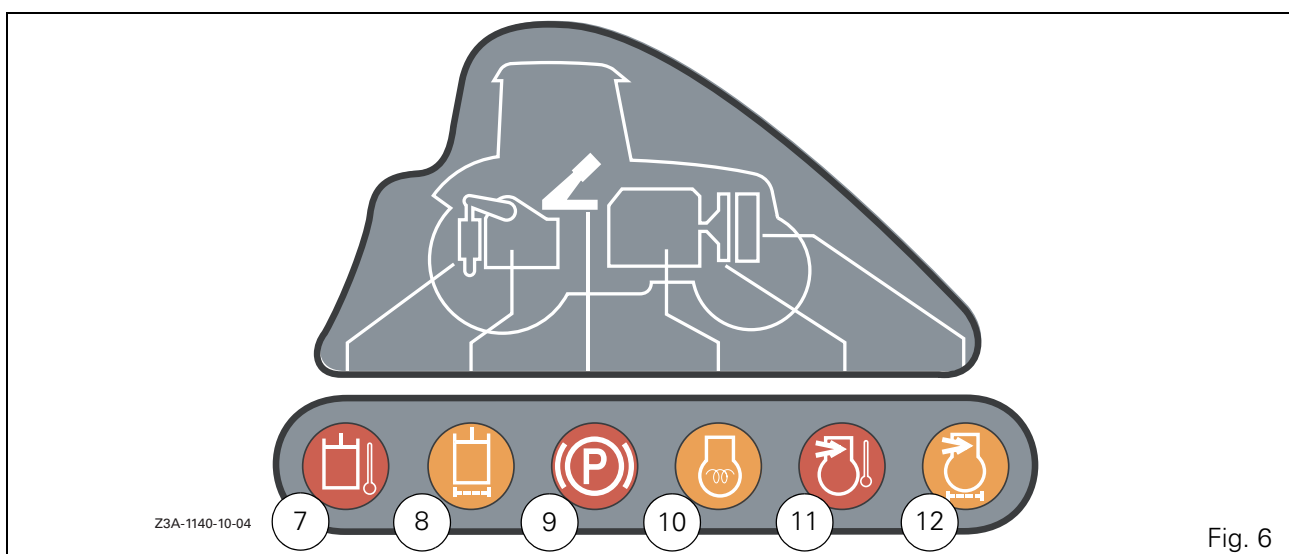

Fig. 6
20. Failure and parking brake control indicator lights (see details in Fig. 6).
3.2.2 - Failure and parking brake control indicator lights (Fig. 6)